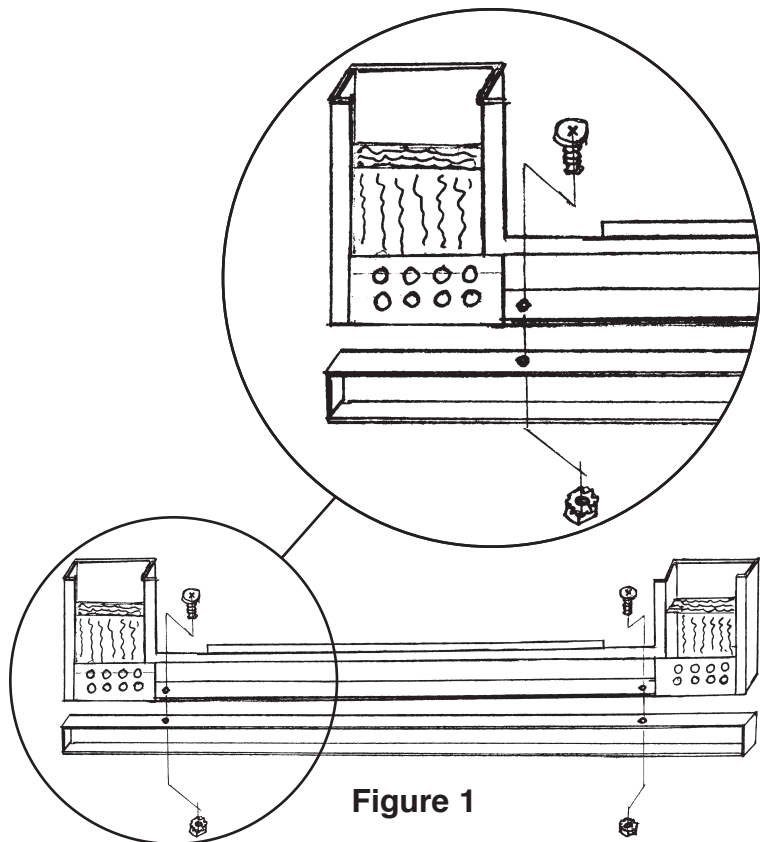

Figure 1
When the riser bar is required, lay the door face down on a flat, padded surface. Attach the riser bar with two (2) 8-32 x 5/8" Machine Screws (#6) and two (2) Hex Nuts (#7) as shown in Figure 1. **Use caution to protect your hands from possible sharp metal edges.** The back edges of the riser bar and the back edges of the bottom frame should be flush. In some cases, the riser bar will extend in front of the assembly frame which is correct.